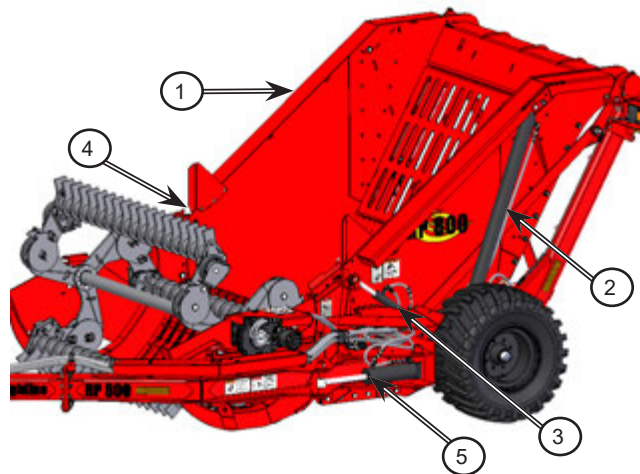

Figure 6.22: Check the hydraulic cylinders
1. Shut down the machine and visually inspect all 5 of the hydraulic cylinders, looking for leaks and/or other damage; see Figure 6.22.